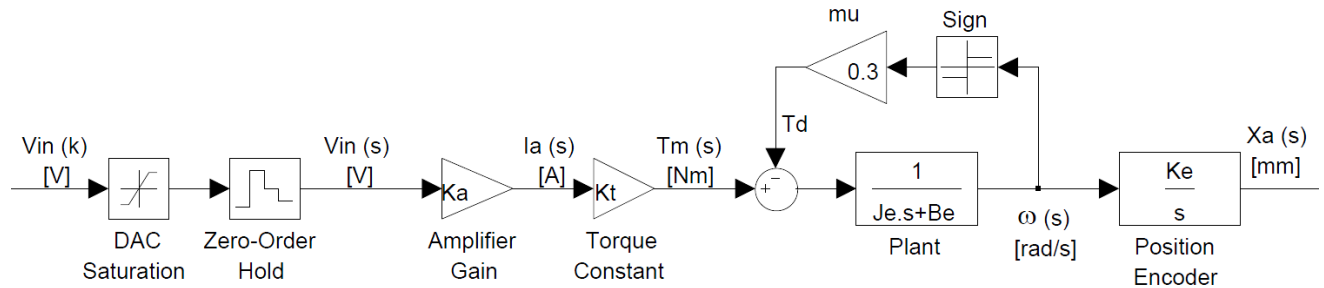

Figure 1 : Open loop Block Diagram of Ball Screw Feed Drive System
- 1. Discrete Transfer Function Derivation:** The first step in designing a digital controller for the drive is to convert the open loop transfer function identified in Lab1 from continuous domain (s-domain) to discrete domain (z-domain). Based on the model identification carried out in the first project, the block diagram of the open position loop is depicted in Figure 1. Manually obtain the
Obtain the discrete time state space model of the machine shown in Figure 1. Simulate the step response of the system using the discrete state space model of the machine given in Figure 1. Compare the results obtained from discrete transfer function and state space models.
Based on the block diagram in Figure 1, create a Simulink model for the closed-loop system with P-Controller by including zero order hold. Include the Coulomb friction and Saturation blocks. Use the Coulomb friction model derived in Lab 1 with $\mu_k = 0.3$ [Nm]. The limits for the Saturation block are ± 3 [A]. Obtain the step response of the closed loop digital control system with and without the friction model. Comment on the effect of Coulomb friction on the overshoot, rise time, and settling time of step response. How does the saturation block affect the overshoot, rise time, and settling time? (Try different values of saturation limit between 0.5-3 [A])